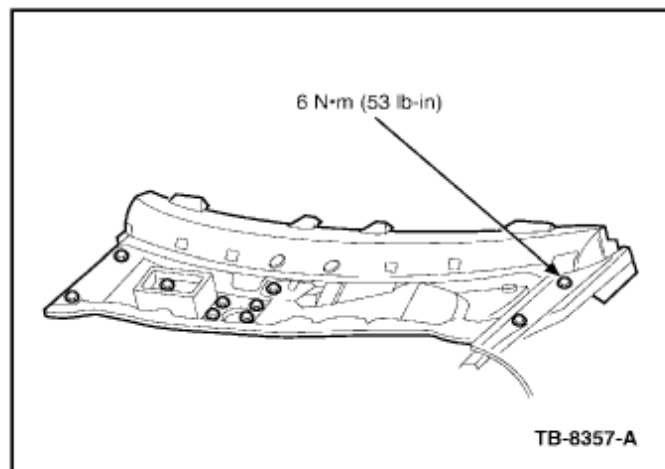

Figure 12
15. Install the lower cowl panel and 10 retaining bolts. (Figure 12)